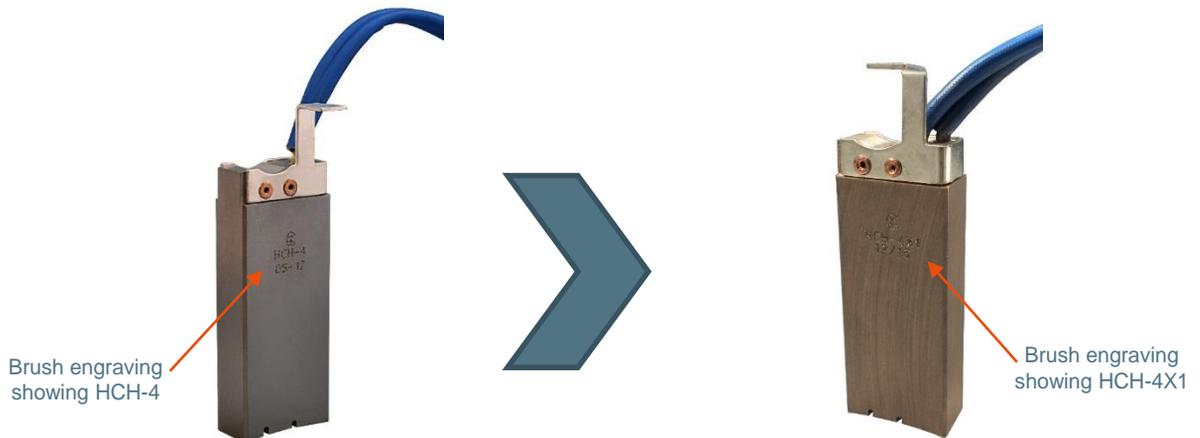

Figure 3 - HCH-4 to be upgraded to HCH-4X1
- Note: For optimum performance, brush grades/part numbers are not to be mixed. Identification for HCH-4 and HCH-4X1 brushes seen in Figure 3
- Engraving on brush indicates part number. New HCH-4X1 brushes are heavier and can be identified easily as seen in Figure 3.